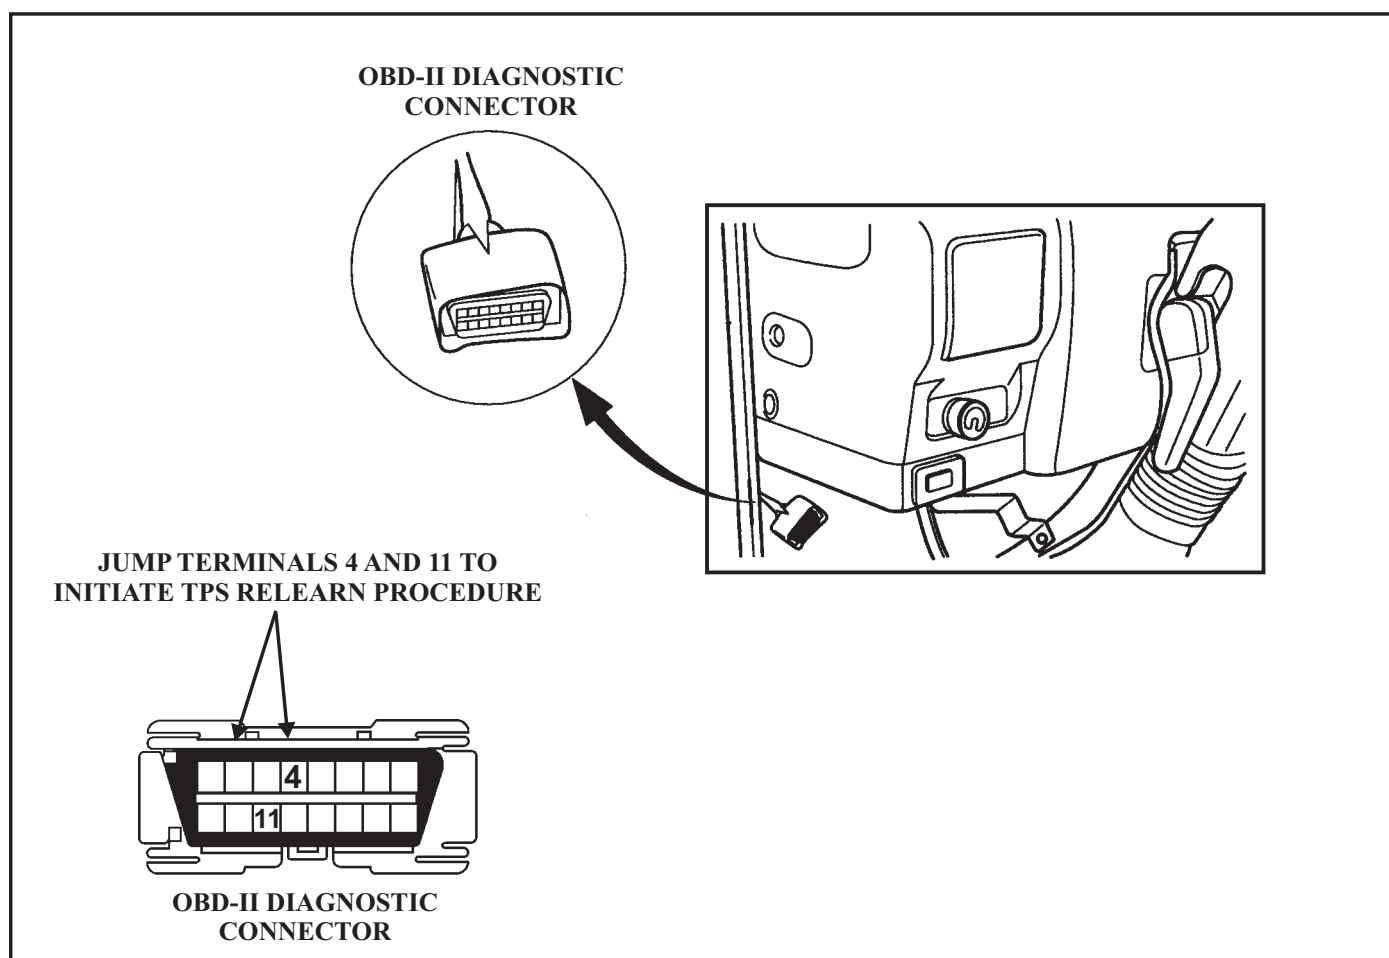

Figure 1
2. Connect terminals 4 and 11 of the Data Link Connector as seen in Figure 1, the "Check Trans" lamp begins flashing at 0.4 second intervals.